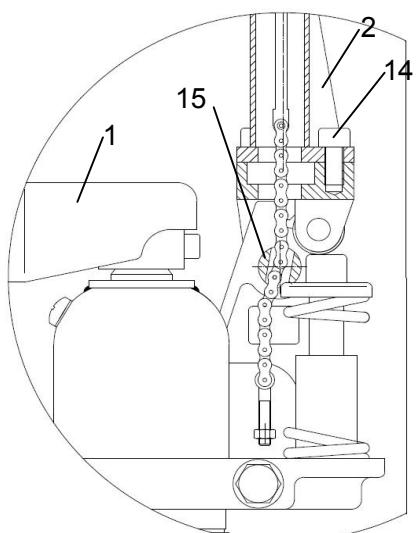

Fig. 9: Side view ER-D
- a)** Remove the 3 screws (14, Fig.9) form chassis tiller arm interface.
- b)** Take the tiller arm with the correct direction and insert the chain through the hole of the axle (15, Fig.9)
- c)** Assemble the tiller arm to the chassis by fixing the 3 screws (14, Fig.9).